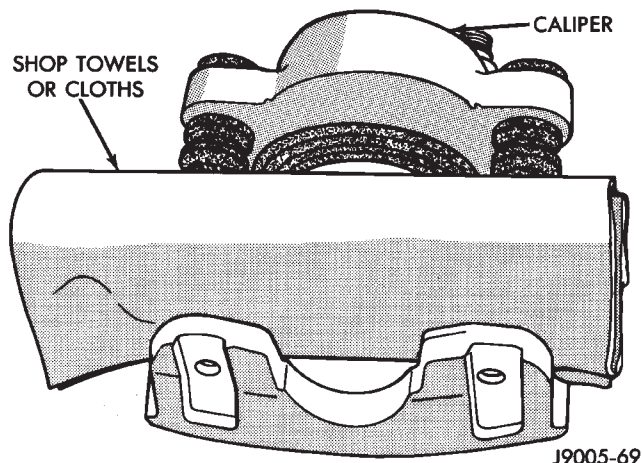

Fig. 45 Padding Caliper Interior
(1) Remove brake shoes from caliper.
(2) Drain brake fluid out of caliper.
(3) Take a piece of wood and pad it with one-inch thickness of shop towels. Place this piece in the out-board shoe side of the caliper in front of the piston. This will cushion and protect caliper piston during removal (Fig. 45).